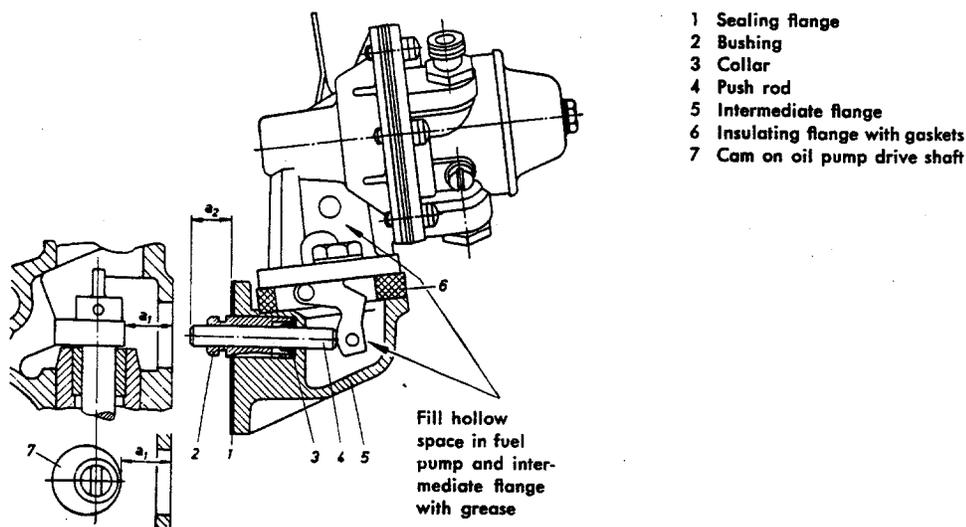

Fig. M 34/00
**Note:** If the pump shows high pressure, this may be attributed to an excessive pump stroke or to the fact that the pump diaphragm has hardened. In either case the pressure can be reduced to the permissible value by interposing shims between intermediate flange and crankcase. With push rod at pressure point and cam on oil pump drive shaft at BDC, the play between rod and cam should be 0.4 to 0.5 mm (0.016 to 0.02"). See Fig. M 34/00.
3. Before installing the fuel pump, check play between push rod and cam; the difference between  $a_1$  and  $a_2$  must be 0.4 to 0.5 mm (0.016 to 0.02"). If the play does not meet the specifications, correct it by using a correspondingly thicker or thinner gasket (1). See Fig. M 34/00.